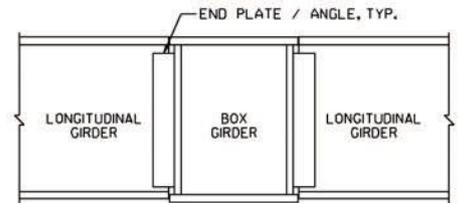

Fig. 2.
- b. The framing option in Figure 2 is not recommended.